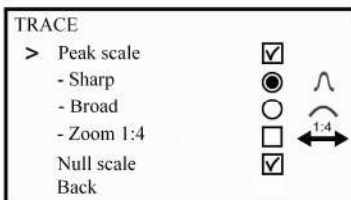

Fig. 12 Menu „Indication"/ „Track"
- the "sensor" option is used to expand the scale 1:4 and to select signal level at the of the SENSOR jack input in dB or Volts (see Fig.12);
The option of the peak scale extension may be selected by scrolling the MENU options as follows: « Menu > Indication > Trace > Peak type > Zoom 1:4 (Fig.12).